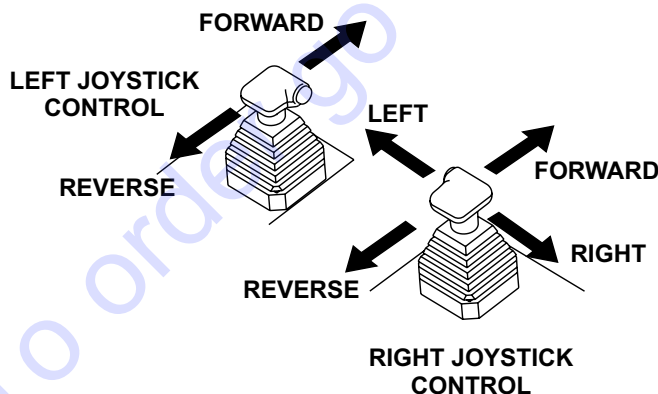

Figure 23. Left and Right Control Joysticks
Two joysticks (Figure 23) located to the left and right of the operator's seat provide directional control for the trowel. Table 6 illustrates the various directional positions of the joysticks and their effect on the trowel.
1. Push both the left and right control joysticks forward. See Figure 23.